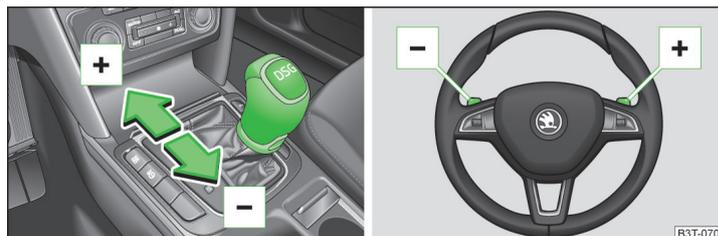

Fig. 141 Selector lever/multi function steering wheel
- Press the selector lever forwards  » Fig. 141.
- Pull the right-hand paddle  » Fig. 141 briefly towards the steering wheel.
- Press the selector lever backwards  » Fig. 141.
- Pull the left-hand paddle  » Fig. 141 briefly towards the steering wheel.
- Pull one of the  paddles » Fig. 141 briefly towards the steering wheel.